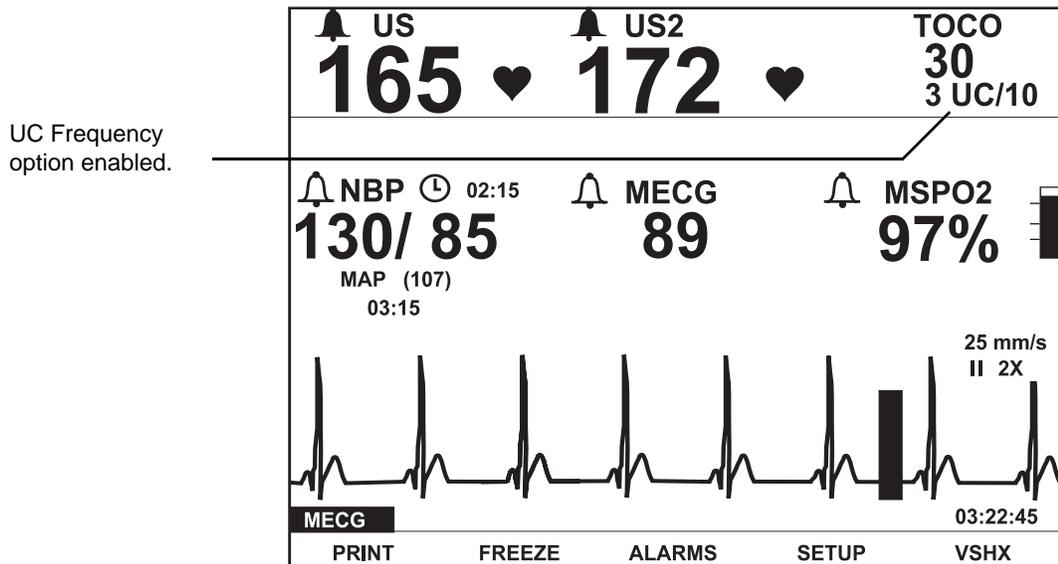

Figure D-9. UC Frequency Option Enabled
When enabled (ON), the UC frequency, per ten minutes, displays in the UA Display area; the UA value displays in a smaller size in order to accommodate the additional information. Refer to Figure D-9.